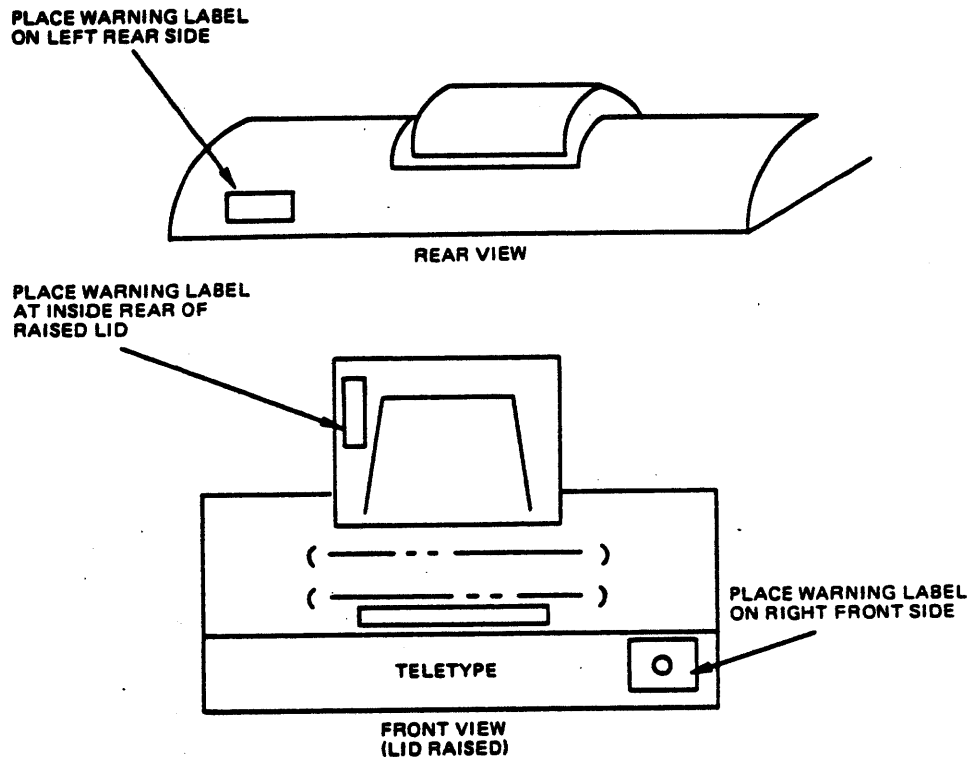

Figure 3-45 Auto-Shutdown WARNING Label Application
12. Replace the nameplate. Attach the WARNING labels supplied for the KSR-33 cover as shown in Figure 3-45. Replace the control knob and platen knob.